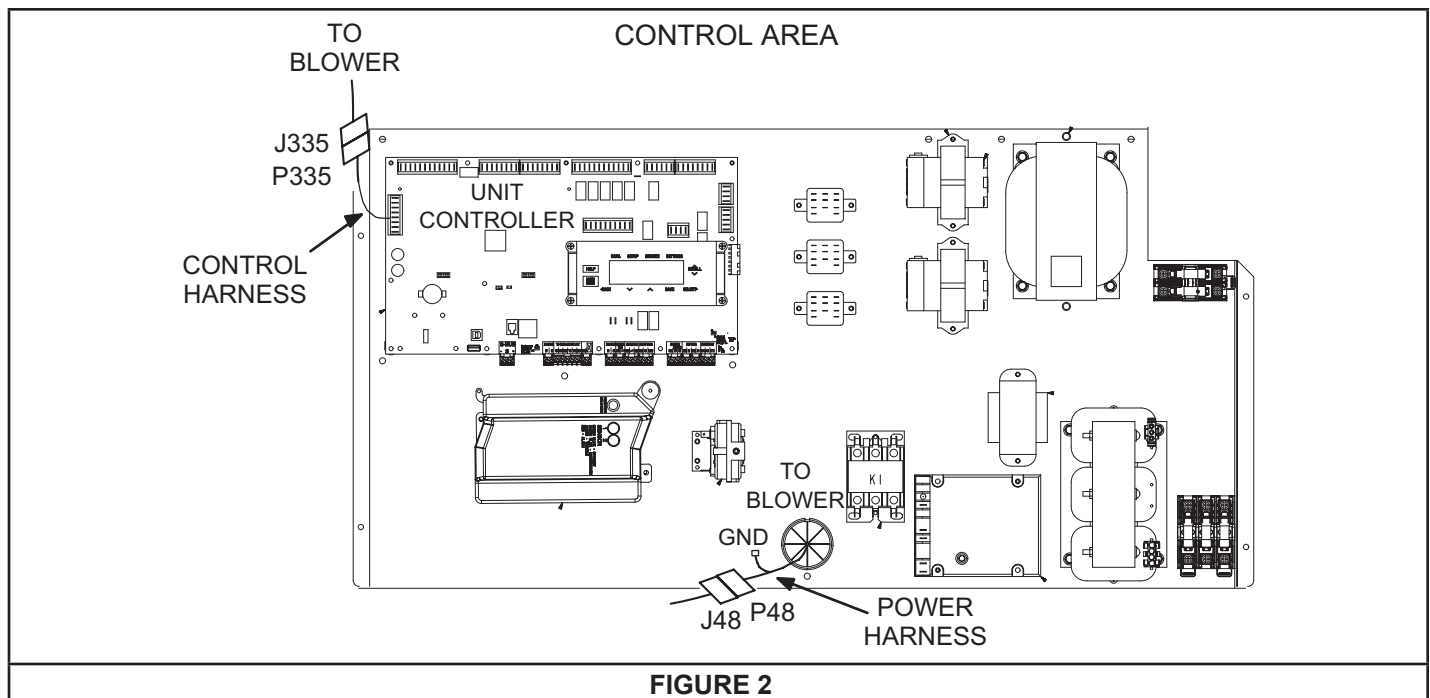

FIGURE 2
- Disconnect Power Harness (P48) and Control Harness (P413 for SCH, P412 for SGH) on motor from unit. Cut wire ties as needed. See FIGURE 2.